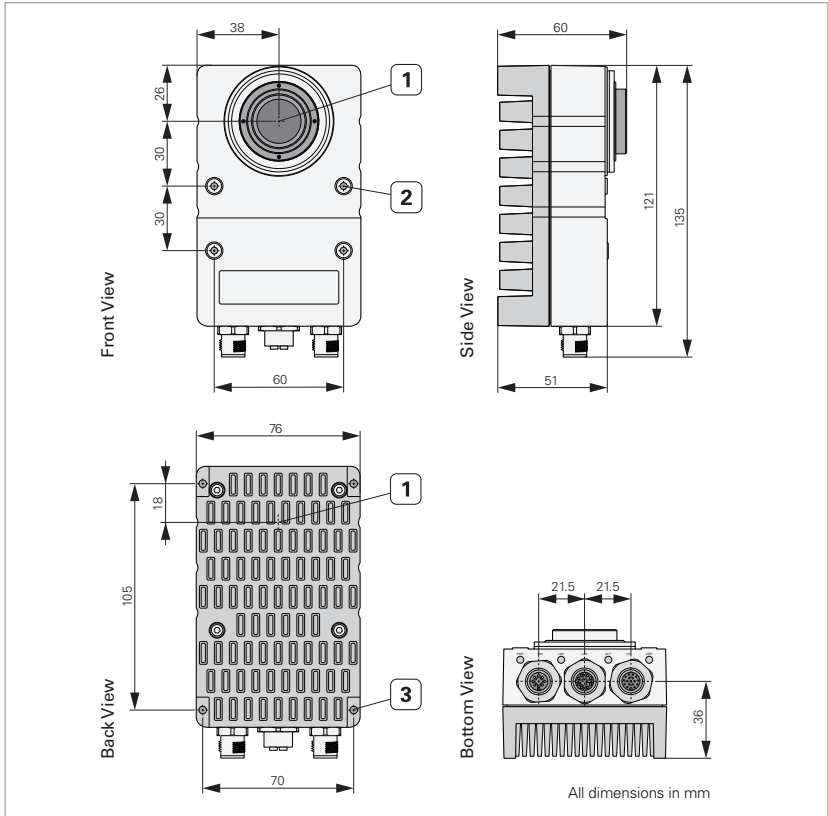

Fig. 1: Dimensions in mm and mounting holes
1. Mount the camera to a suitable mounting plate using the M4 mounting holes on the front or on the back of the camera (➡ Fig. 1 on page 12).